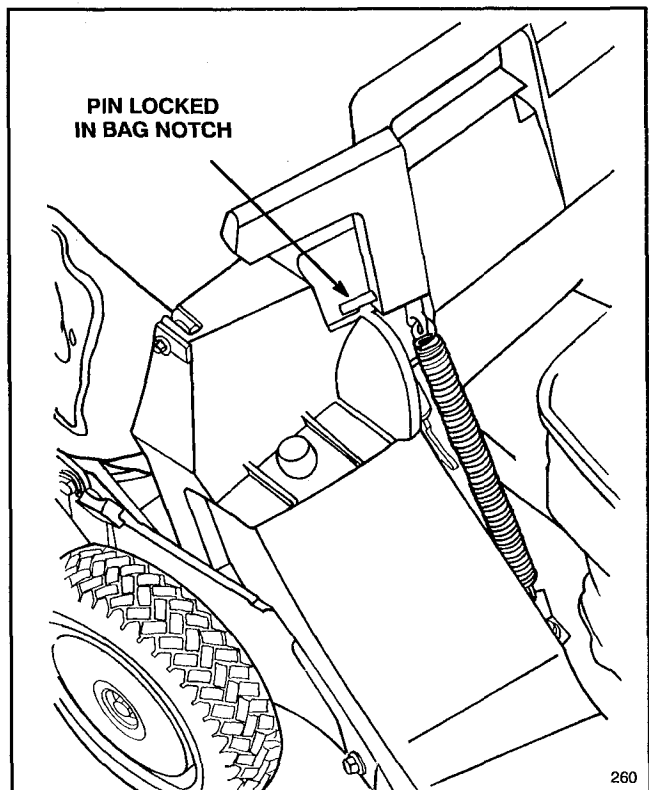

Figure 17
4. Pull discharge door handle forward until pin clears catch and move handle rearward until pin locks in bag notch (Fig. 17). Discharge door in mower housing is now open.